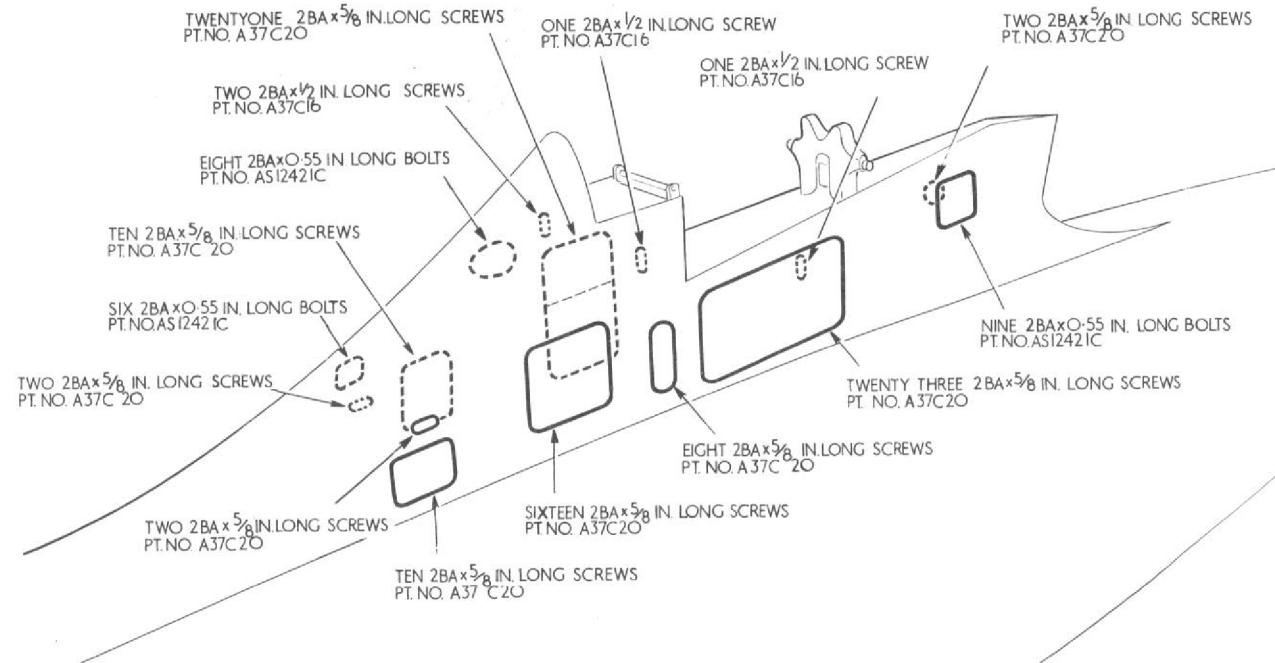

Fig.6 Dorsal fin access panels attachment fixings
*The screws and bolts required for the attachment of the dorsal fin panels are detailed in fig.6. ►*